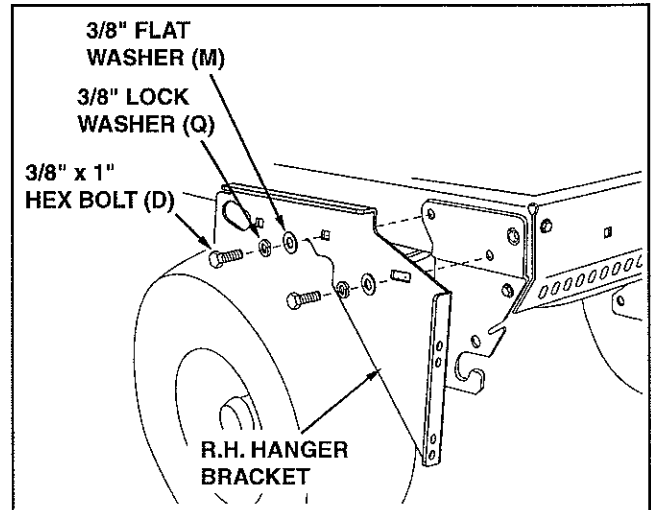

FIGURE 10
19. Attach the R.H. hanger bracket to the front two holes in the right side of the tractor frame using a new 3/8" x 1" hex bolt (D), 3/8" lock washer (Q), and 3/8" flat washer (M) as shown in figure 10. **Do not tighten yet.**